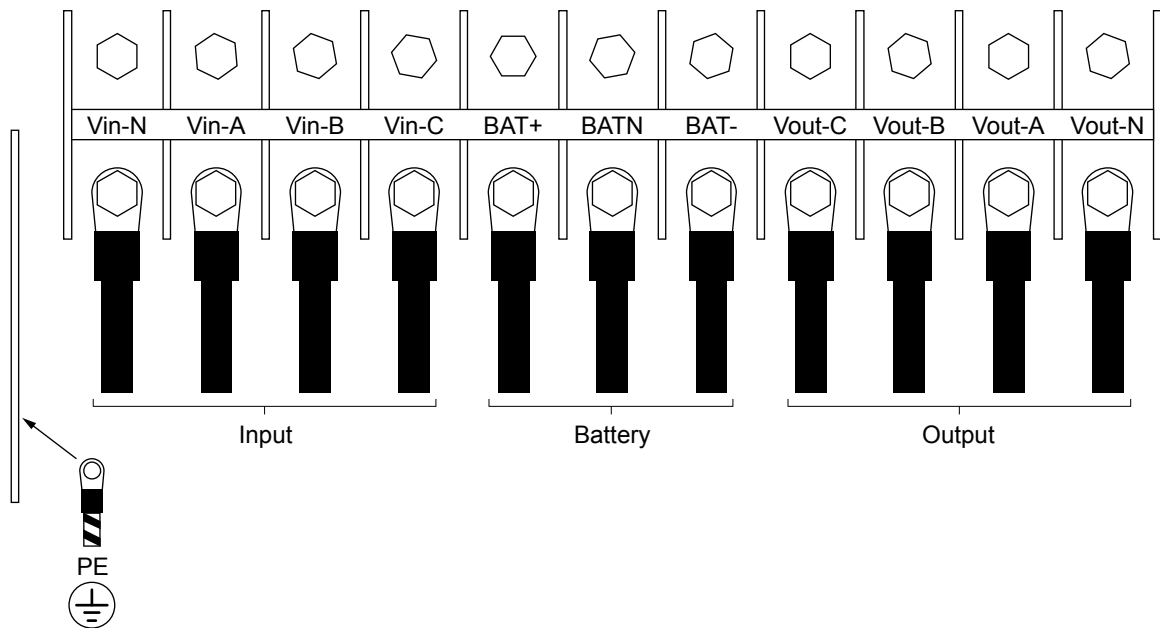
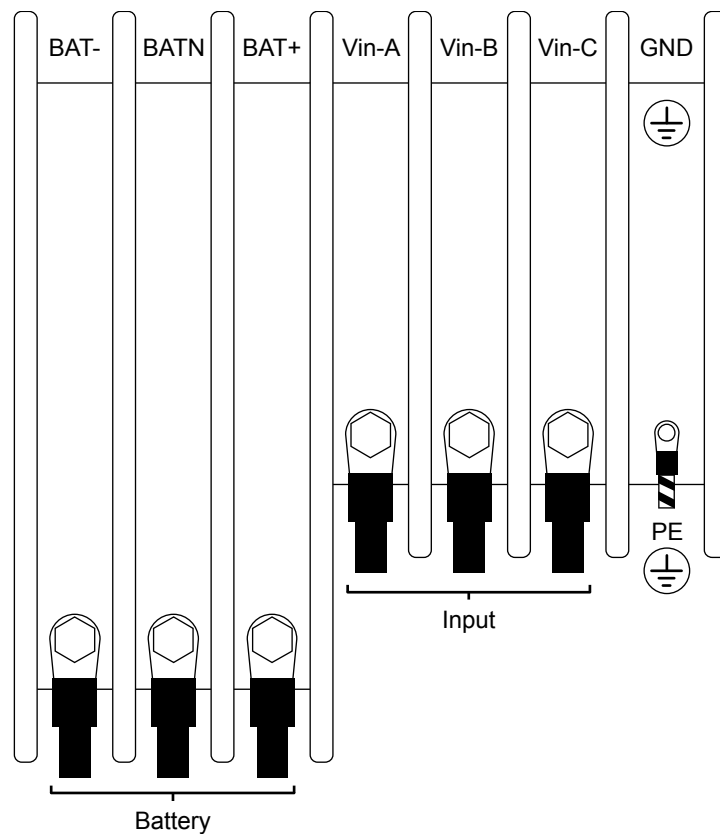
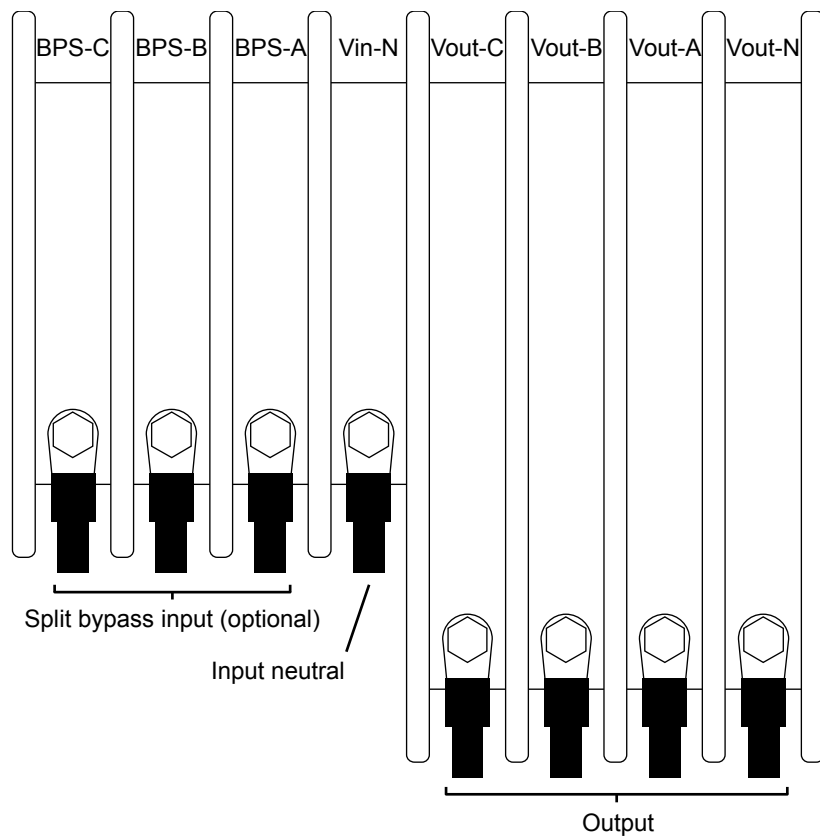

Figure 13 E633100 cable connections
Figure 14 E633200 right-hand side cable connections
Figure 15 E663300 left-hand side cable connections
- Wire the input and output earth cables to the PE (protective earth) terminal. Ensure that both connections are made (see Figure 13 for the E633100 and Figure 14 for the E633200).
9. Wire input, output and battery cables to the terminals (see Figure 13 for the E633100, and Figure 14 and Figure 15 for the E633200).
- b. Wire the split bypass input to BPS-A, BPS-B and BPS-C inputs shown in Figure 15.